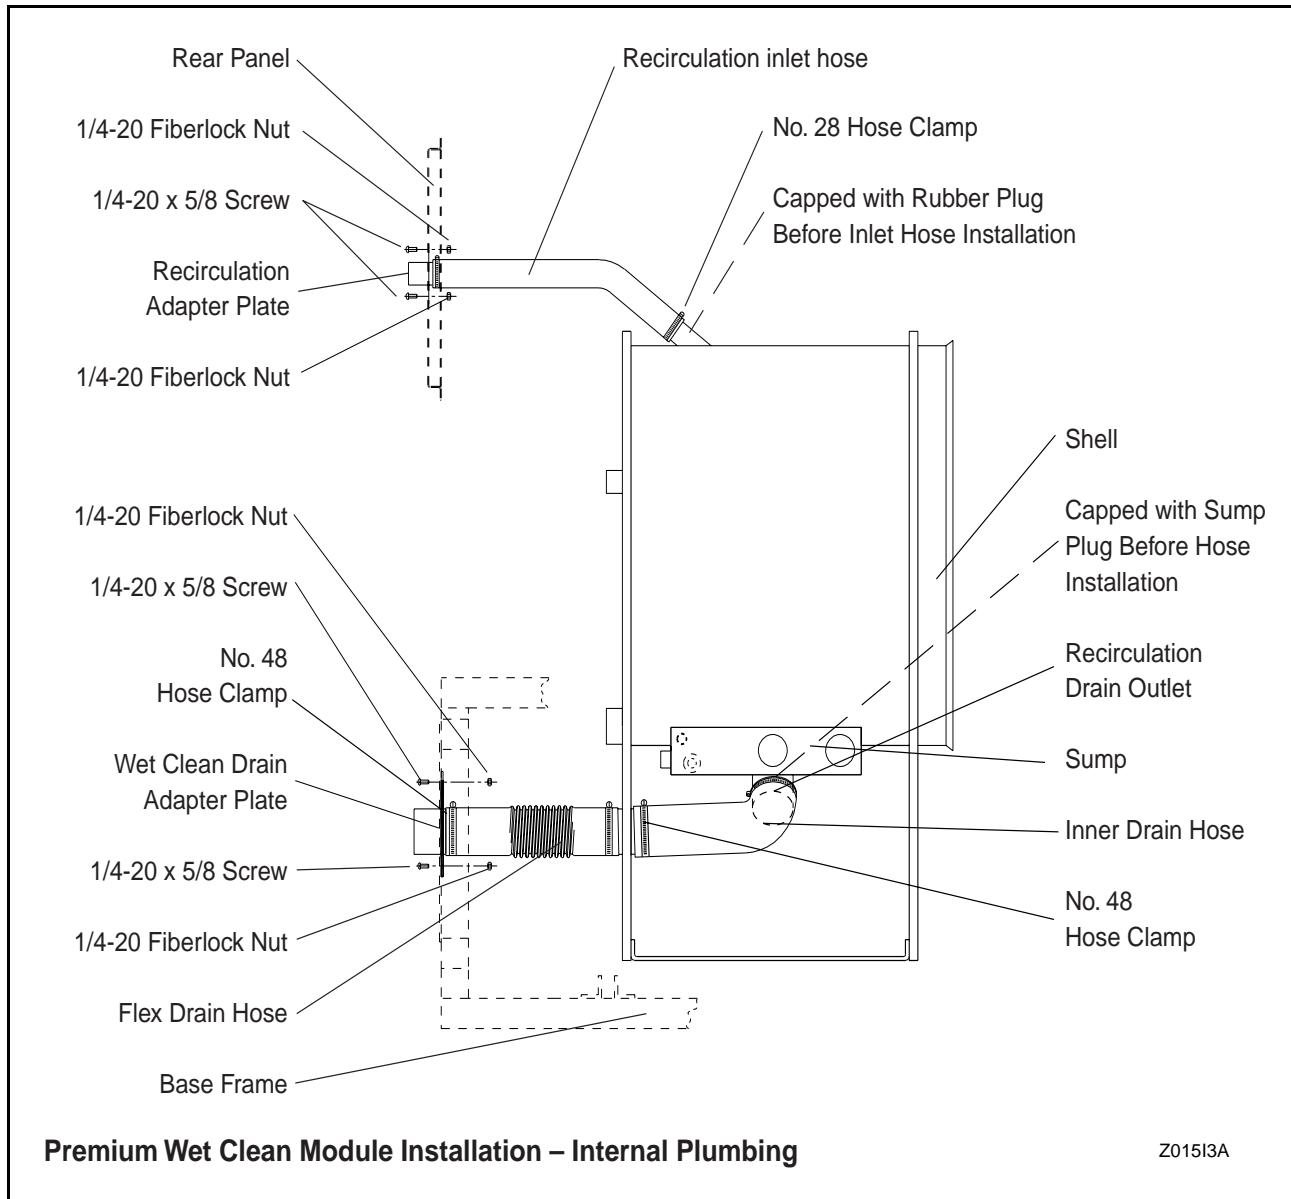

Figure 20
- b. Remove the sump plug from the recirculation drain outlet. See Figure 20.
d. Install the inner drain hose and flex drain hose as shown in Figure 20.
- Remove the cap on the recirculation inlet on top of the shell. See Figure 20.